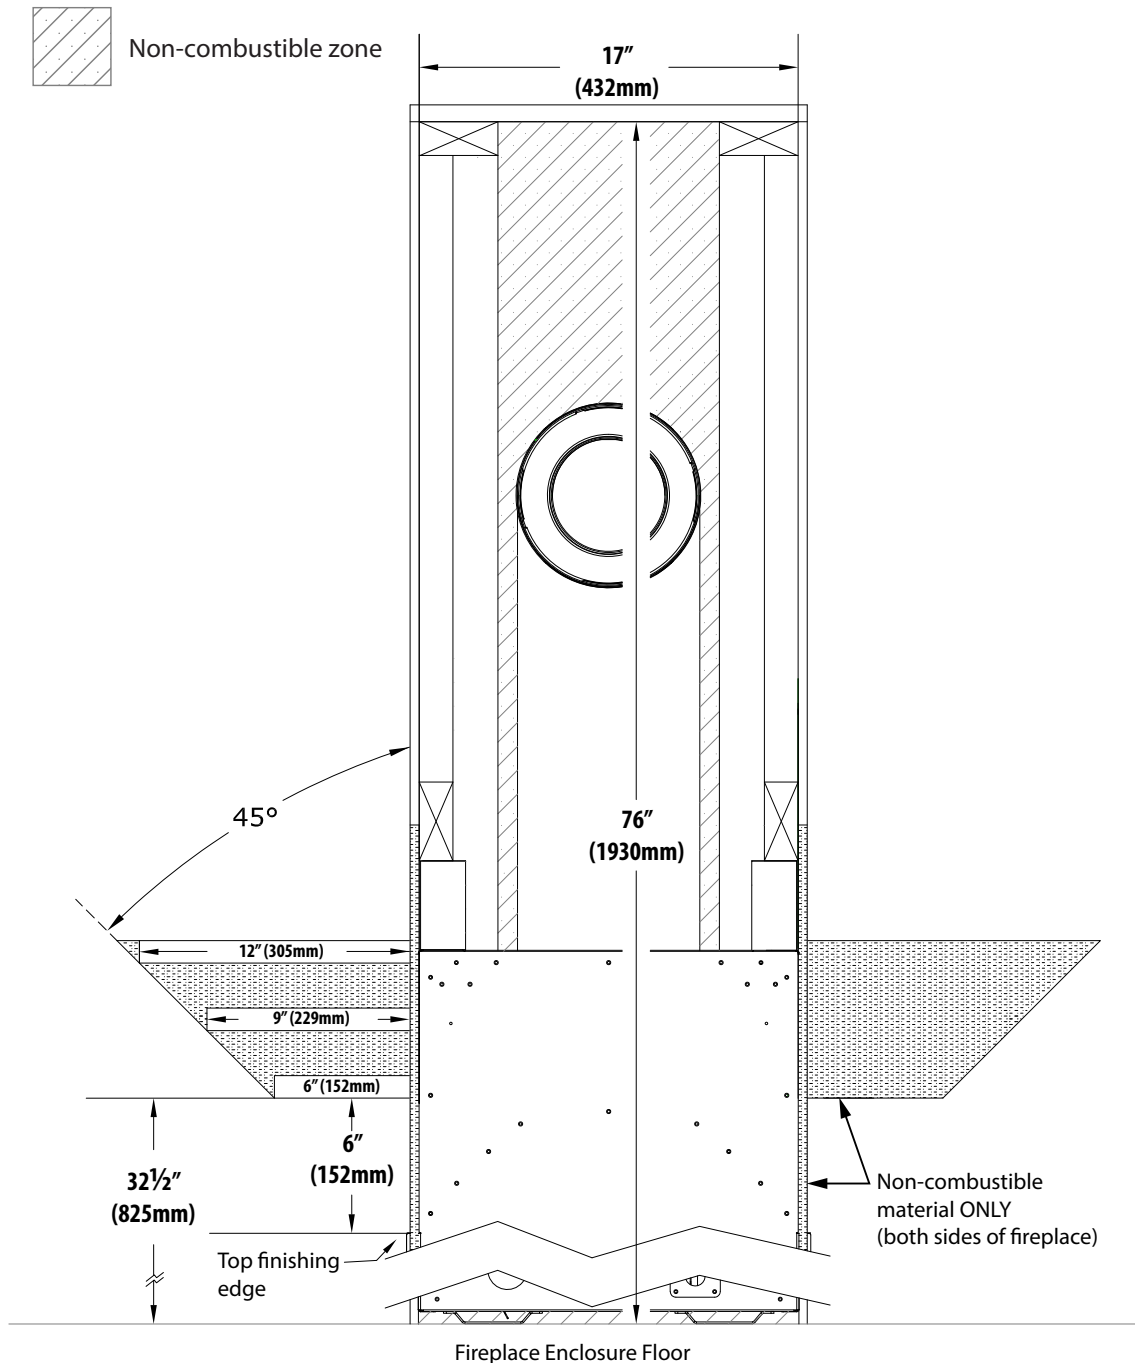

FIGURE 4.2 Standard Installation Non-Combustible Mantel Clearances - No Surround
- **Non-combustible Mantel Projections:** A minimum vertical clearance of 6" (152mm) above the top finishing edge to a maximum 6" (152mm) depth of a non-combustible mantel. Follow projection 1" (25mm) up for every 1" (25mm) deeper. See FIGURE 4.2 on page 36.